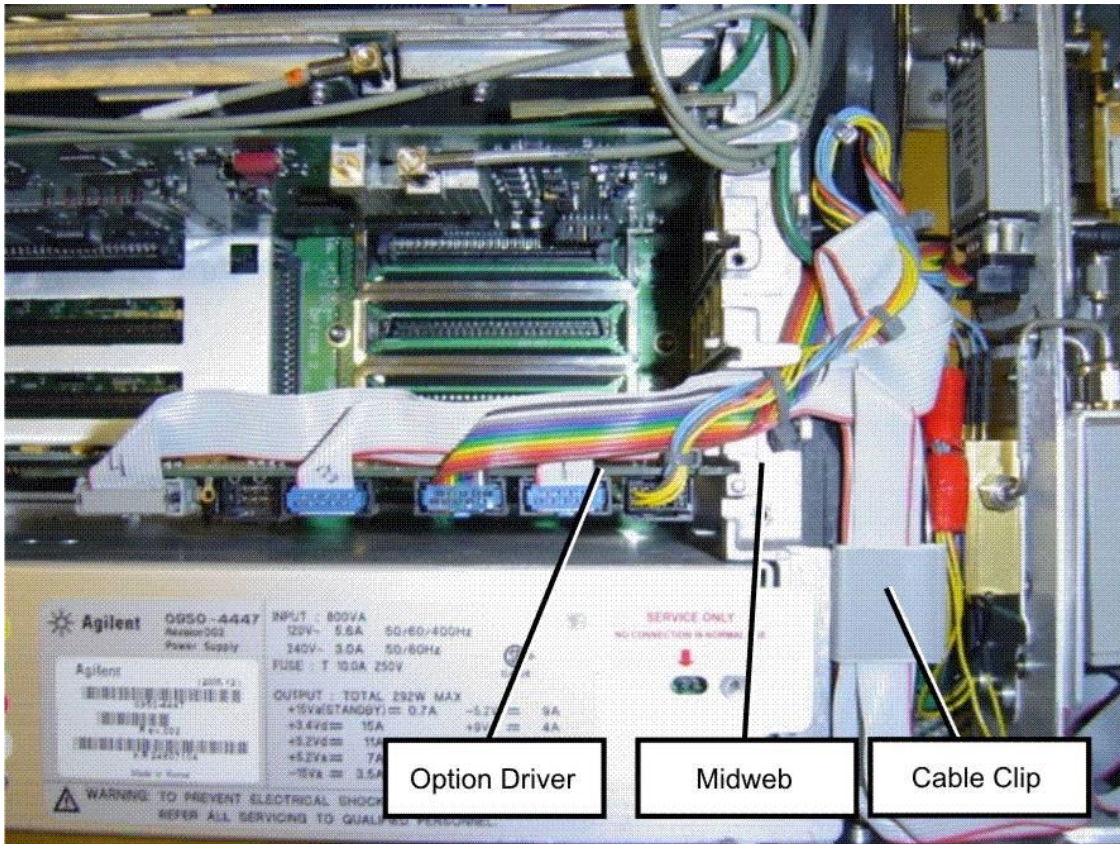

Figure 1. Option Driver assembly location. E4448A shown
2. With the instrument powered down, locate the Option Driver assembly shown in **Figure 1**. Notice how the ribbon cables connected to the board assembly are routed near the instrument fans. This routing prevents damage to the cables when the top brace is installed.